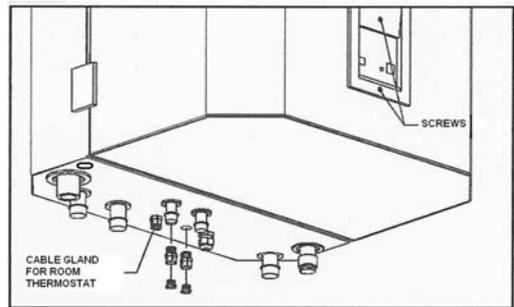

Fig 1
- a) Remove the two screws from the control panel. (Fig1)